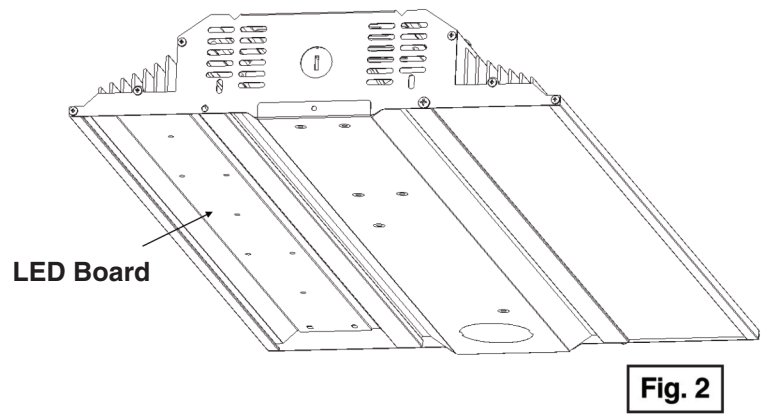

Fig. 2
Remove the lens to have access to the LED board, as shown in **Fig. 2**. Once repairs are complete, slide the lens back into place and replace the two (2) screws.